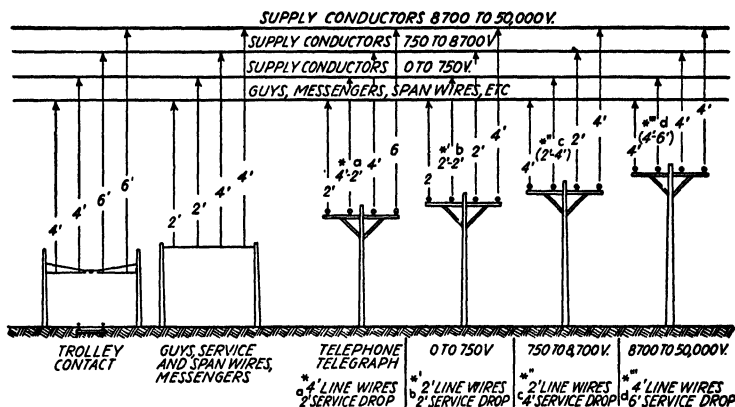

FIG. 23-11. Minimum wire crossing clearances as recommended in the NESC Rule 233A.
**Wire-crossing Clearances.** Figure 23-11 shows the recommended minimum clearances between rural lines and other lines such as trolley contact, guys, service and span wires, telephone and telegraph, and electric power lines having voltages from 0 to 750, 750 to 8,700, and 8,700 to 50,000 volts. These clearances are to exist at 60°F and no wind. For further details see NESC Rule 233A.
**Line Protection.** The two main causes of service interruption on rural lines are (1) short circuits and (2) flashover.